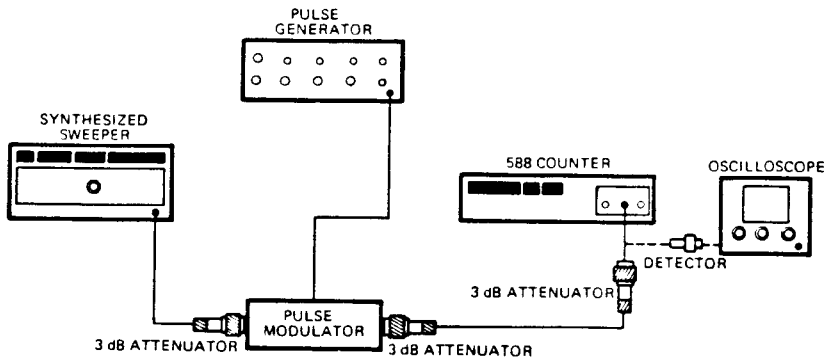

Figure 4-28. Pulse Width Accuracy
1. Connect equipment as shown in Figure 4-28. The 3-dB attenuators should be at the IN and OUT ports of the pulse modulator, and the input to the counter.